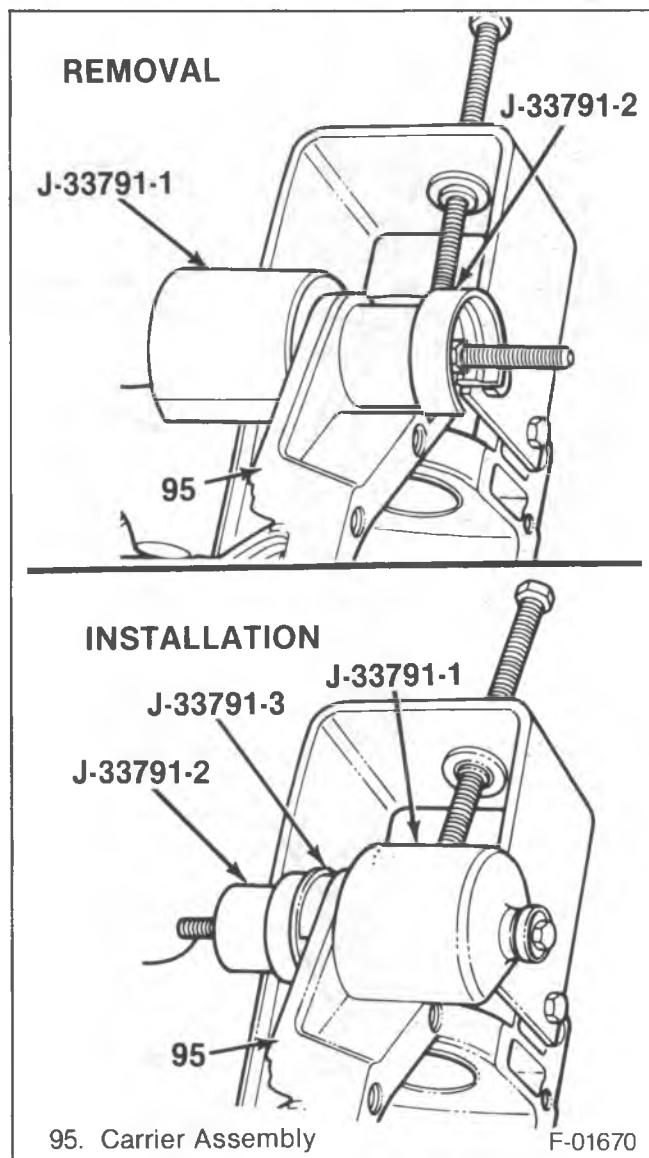

Figure 15—Replacing the Case Bushings
35. Bushings (48). Use J 33791 (figure 15).